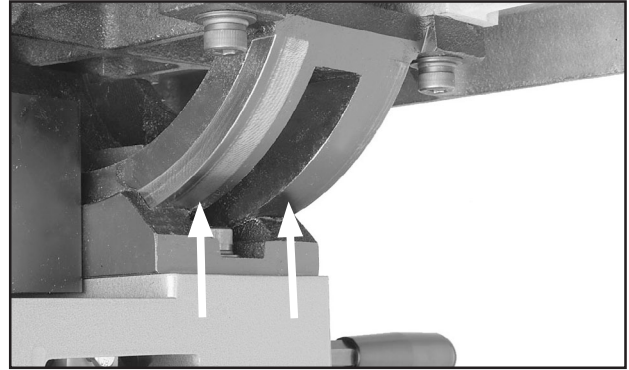

Figure 74. Trunnion lubrication location.
3. Apply a thin coat of light all purpose grease to the trunnions (**Figure 74**).